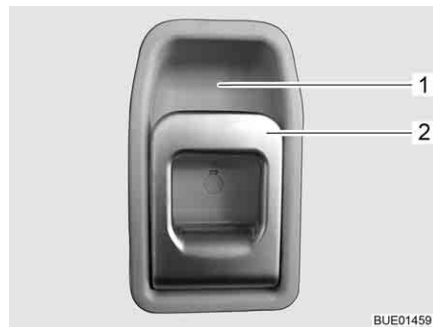

Fig. 45 Door lock of conversion door, inside
*Opening:* ■ Pull on the handle (Fig. 45,2). The door lock is unlatched.
*Locking:* ■ Press the upper part of the handle (Fig. 45,2) in the direction of the recessed handle (Fig. 45,1).